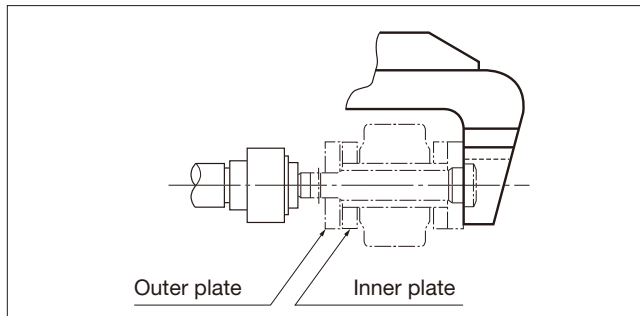

Fig. 5 Position of chain removal tool and chain
- 2) Set the chain in the jig as shown in Fig 5.